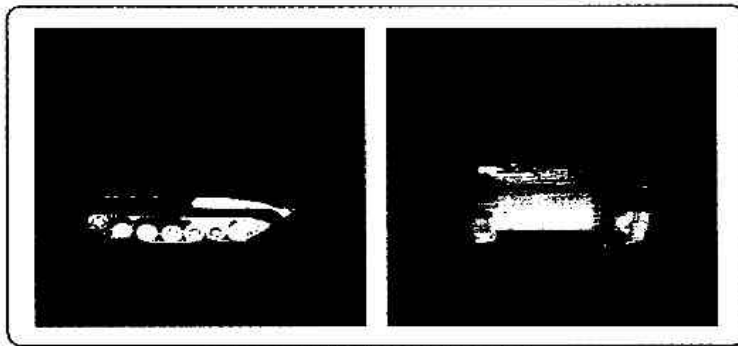

Figure A-6. BMP Infantry combat vehicle.
f. **BMP Infantry Combat Vehicle** (Figure A-6).